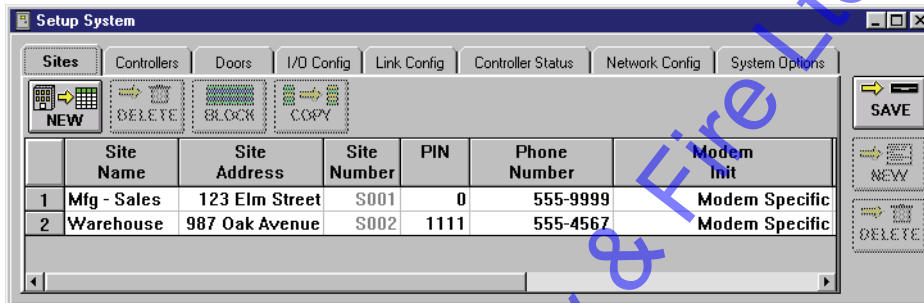

Figure 8-24: Select a Site to Delete
1. Click on the Setup ⇒ System pull-down menu or click on the  button on the tool bar, then click on the **Sites** tab. The following window appears (see Figure 8-24).